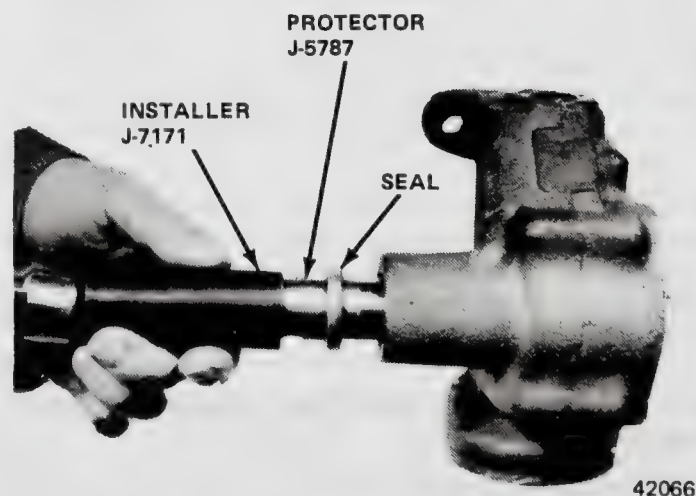

Fig. 2J-3 Pitman Shaft Seal Installation
(1) Raise and support car.
(2) Remove pitman arm using Puller J-5566-04 (fig. 2J-2).
(3) Turn steering wheel slowly from stop-to-stop, count number of turns, and turn wheel back 1/2 total number of turns to position gear on center.
(4) Remove side cover attaching bolts and remove pitman shaft and side cover assembly.